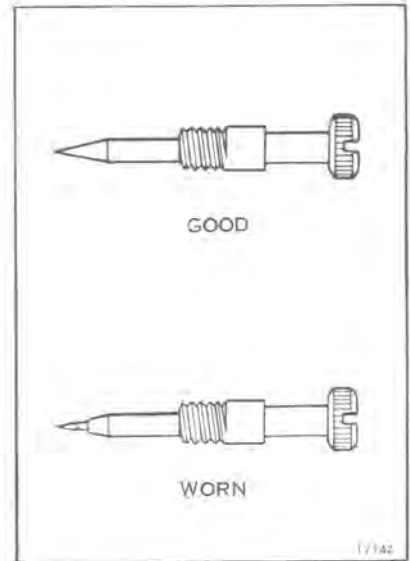
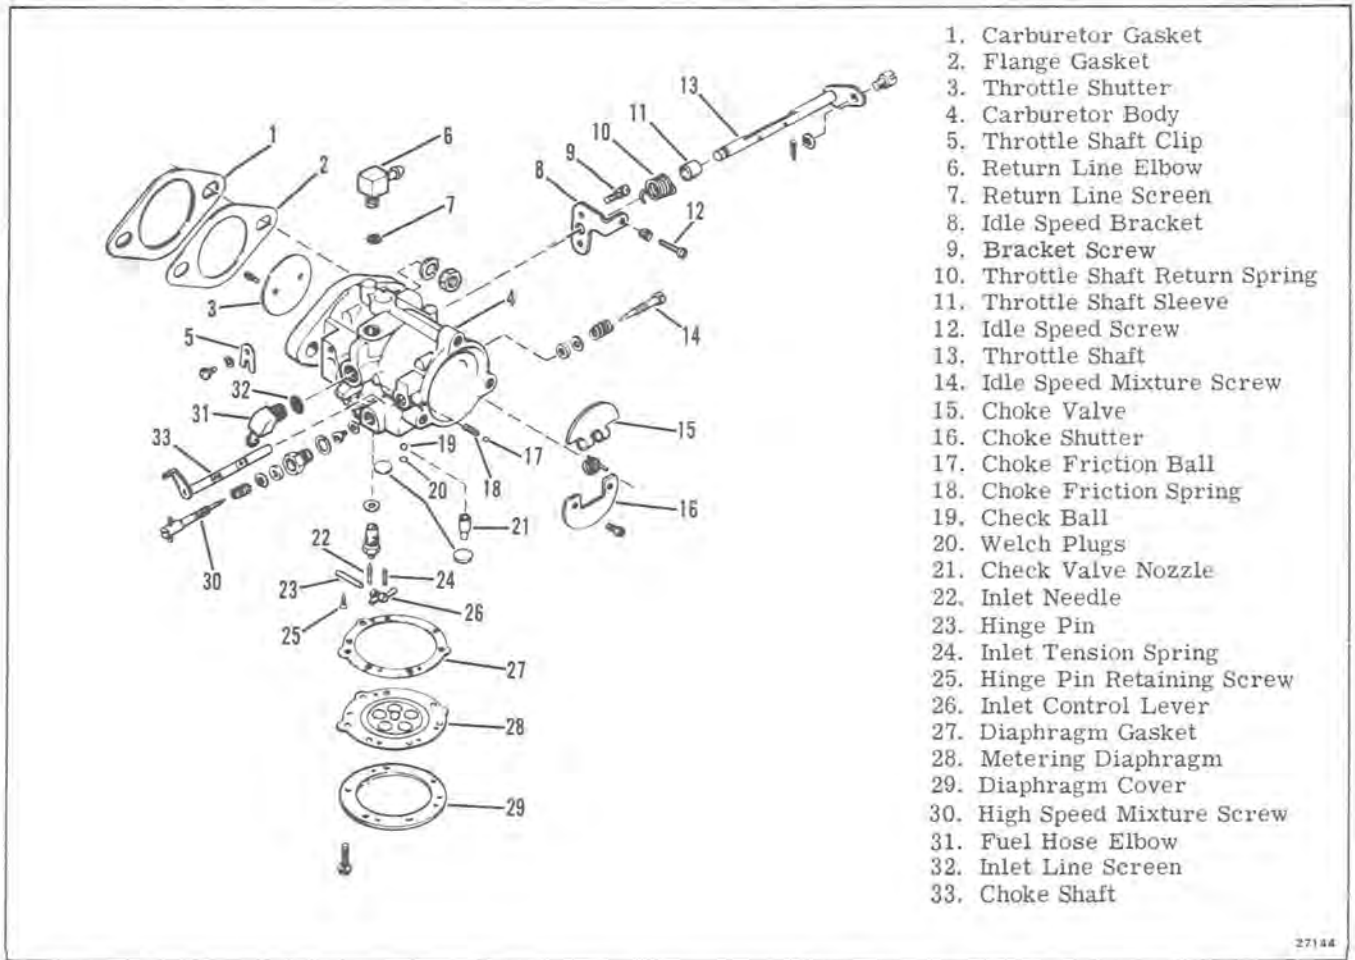

Figure 6-3
Figure 6-5
- a. Remove the idle speed mixture screw (14), washer and tension spring. Inspect for damaged threads (see Figure 6-5).
- b. Remove the metering diaphragm cover (29), the metering diaphragm (28), and gasket (27). Inspect the cover for nicks, dents, or cracks that might hamper operation. Inspect the metering diaphragm; the center plate must be riveted securely to the diaphragm and the diaphragm should be free of holes and imperfections. The gasket should be replaced if there are holes or creases on its sealing surface. The parts must be reassembled in the correct order. The gasket should be assembled onto the carburetor body casting first, then the metering diaphragm is assembled next to the gasket.
- c. Remove the hinge pin retaining screw (25), the hinge pin (23), inlet control lever (26) and the inlet tension spring (24). Use caution in removing these parts. Spring pressure may push the inlet control lever out of the casting. Inspect the parts for wear or damage. The inlet control lever must rotate freely on the hinge pin.
- e. Remove the inlet needle (22). Remove the inlet seat assembly using a 3/8-inch thin wall socket. Remove the inlet seat gasket.
- g. Remove and inspect the points of the high speed and idle mixture screws. See Figure 6-3. Through misuse, either mixture screw point may be bent (extruded) from being forced into the casting seat or possibly broken off in the casting (see Figure 6-5). If either mixture screw is damaged, be sure to inspect the casting. If the adjustment seats are damaged, a new body casting is required. Check for clogged inlet and return line screen.